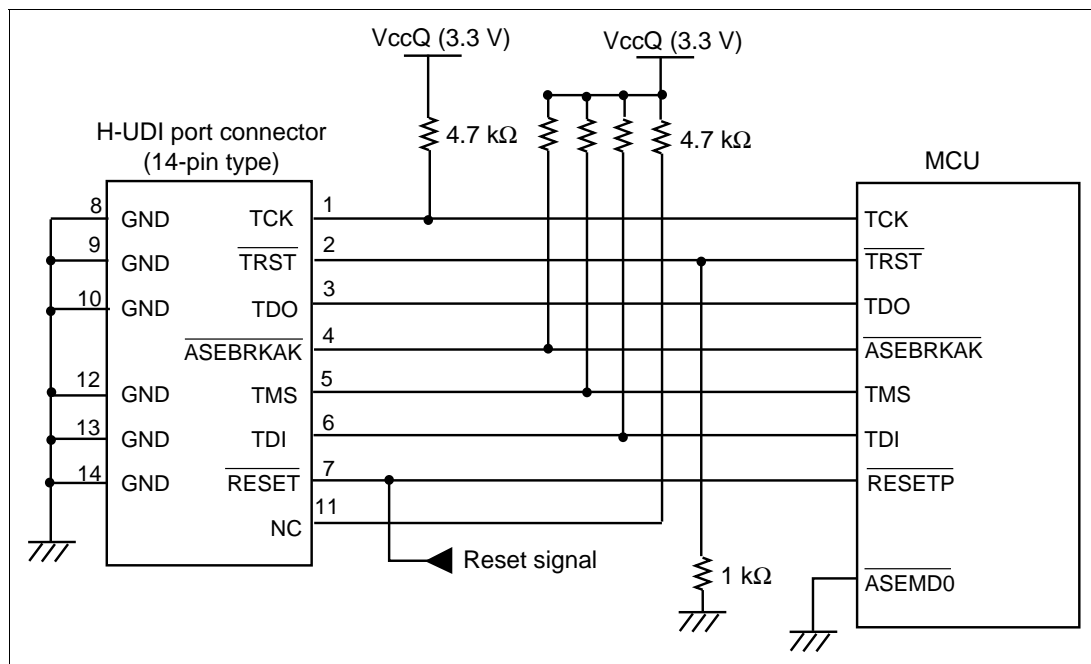

Figure 4.2 Recommended Circuit for Connection between the H-UDI Port Connector and MCU (14-Pin Type)
Figure 4.2 shows a recommended circuit between the H-UDI port connector and the MCU.
- (1) When the emulator is used: /ASEMD0 = low (ASE mode)
- (2) When the emulator is not used: /ASEMD0 = high (normal mode)
7. The resistance values shown in figure 4.2 are recommended.